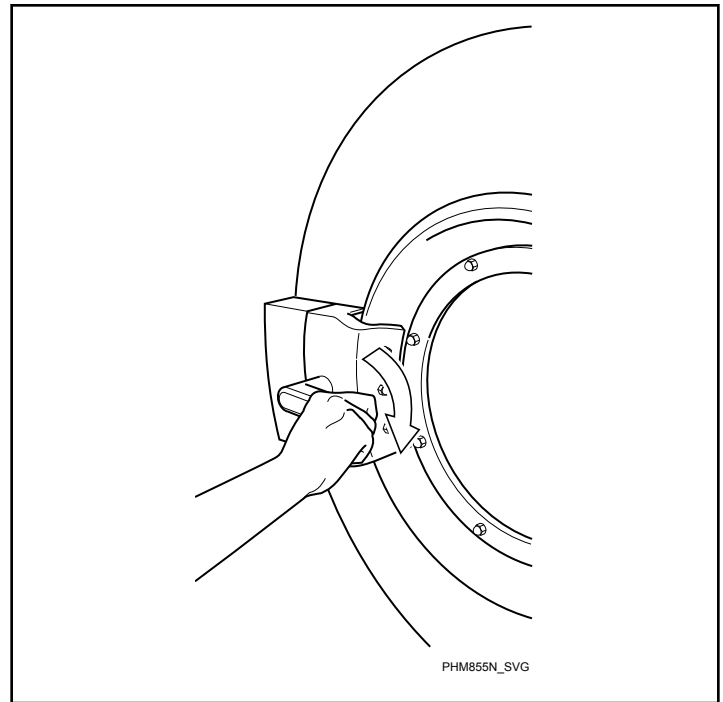

Figure 37
2. Turn the door handle clockwise and swing the door left to open it. Refer to *Figure 37*.